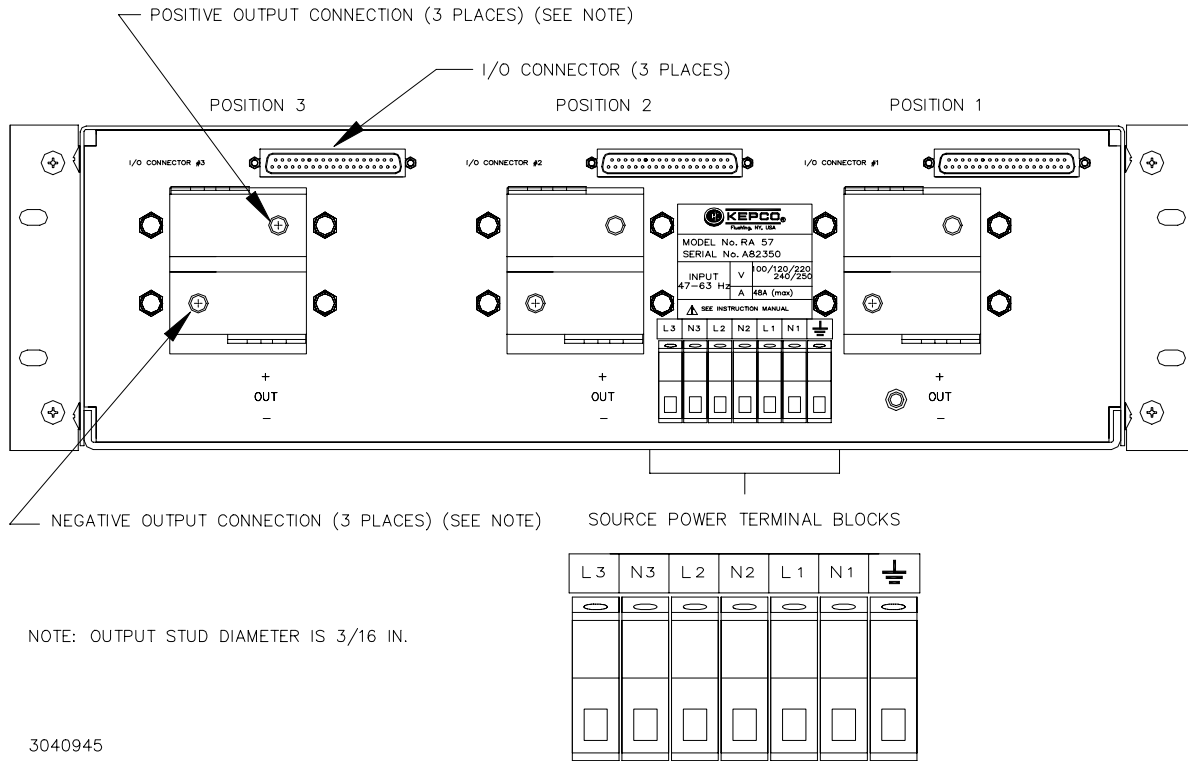

FIGURE 2-2. REAR PANEL CONNECTIONS
All input, output and control terminations are located on the rear panel of the rack adapter (see Figure 2-2). Other than module keying (Para.2.2), no adjustments or alignments are required.
The rear panel of RA 60 Series rack adapters (Figure 2-2) includes seven terminal blocks to allow for connection of single-phase a-c, three-phase a-c (4-wire or 5-wire) and d-c input power. These terminal blocks are labeled L1, N1, L2, N2, L3, N3, and G. Each terminal block will accommodate up to #6 AWG (16mm²) or equivalent conductor size. Their functions are as follows:
- **Terminal pairs L1/N1, L2/N2, L3/N3** are connected to the high-side and low-side contacts of the source power connectors for each of the three power supply mounting positions (1, 2 and 3) of the rack adapter (see Figure 2-2). Each terminal pair (Lx/Nx) is isolated from the remaining two pairs, facilitating redundant source power connections if desired. The conductor used to connect terminals Lx and Nx to source power must be sized for the 16 ampere maximum source current drawn by HSP Series power supplies; Kepco recommends #14 AWG (2.5mm²) or equivalent minimum conductor size to support this current.
Access to the control signal (I/O) connector for each HSP power supply is provided via the three 37-pin D-subminiature connectors on the rear panel of the rack adapter (see Figure 2-2). Three mating connectors (Kepco PN 142-0422) are provided in a plastic bag. These connectors are simply extensions of the identical connectors located on the HSP power supplies. Consult the HSP operator's manual for instructions on wiring and use of these control lines.
Load connections to the rack adapters are achieved via the stud pairs located on the rear panel directly behind each mounting position (see Figure 2-2). Required hardware for attaching output cables are assembled to the output studs. RA 60 rack adapters provide permanent interconnection of the three power supply positions for parallel/redundant configuration. All three load connections must be used when the 3.3 volt and 5 volt modules are used. RA 62 and RA 63 rack adapters employ a modular bus bar system to permit a variety of load configurations. The following sections describe the basic output bus bar configurations available with Series RA 60 rack adapters. Additional information regarding these and other load interface requirements are contained in the HSP operator's manual.